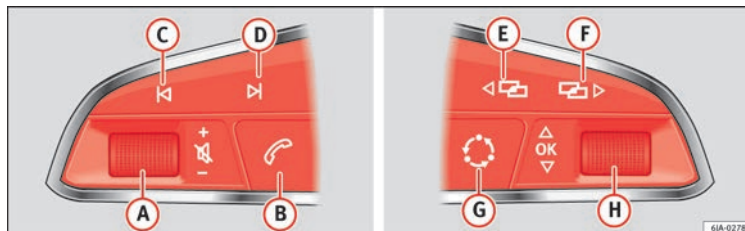

Fig. 124 Controls on the steering wheel.
- Unfold the vehicle key blade **Fig. 124**.